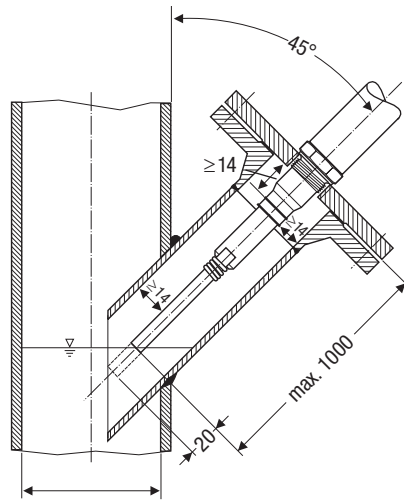

Fig. 15 Inclined installation, e. g. in ascending inlet lines of hot-water installations or vessels
- The angle of inclination of the electrode must not exceed 45°, with the length of the electrode rod being limited to 1000 mm. **Fig. 15**
- For outdoor installations please use level electrode NRG 1...-51 F. Level electrodes with this suffix (F) feature a terminal box made from aluminium.